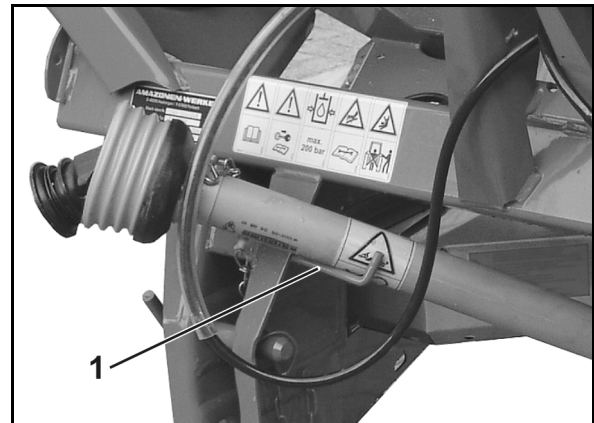

Fig. 34
5. Place the PTO shaft in the holder provided (Fig. 34/1).